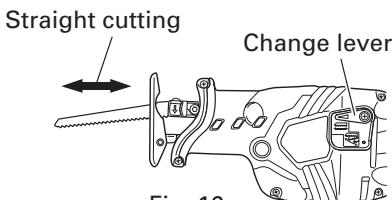
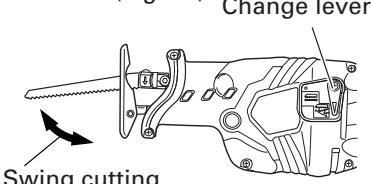

Fig. 16
Fig. 17
Two cutting systems can be selected with this unit. The first is straight cutting, in which the saw blade is moved linearly, and the second is the swing cutting, in which the saw blade is swung like a pendulum. (Fig. 16, Fig. 17)
Straight cutting should normally be performed when cutting hard materials such as metal, etc. (Fig. 16)
Swing cutting is efficient since the saw blade forcibly bites into the material. (Fig. 17)
- (4) You can cut smoothly if you set the change lever position to straight cutting (Fig. 16).
- (2) You can cut efficiently if the speed of the saw blade is set to dial scale "5".
(3) You can cut efficiently if the change lever position is set to swing cutting (Fig. 17). Alternatively, you can cut cleanly if the change lever position is set to straight cutting (Fig. 16).